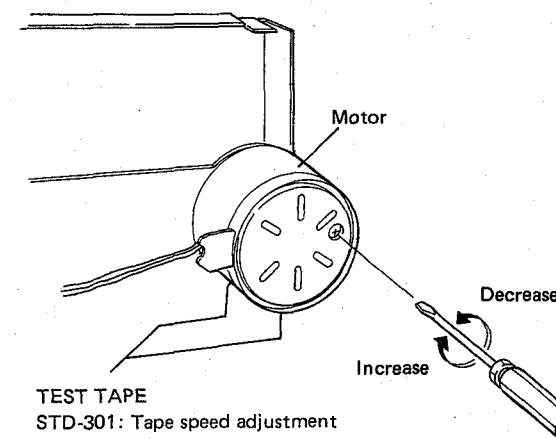

Fig. 10-2 Tape speed adjustment
- Playback the 3kHz portion of the STD-301 test tape. At the beginning, the frequency should be lie within the 3000Hz~3010Hz range, and may be adjusted by turning the semi-fixed resistor located in the capstan motor adjustment hole as shown in Fig. 10-2.